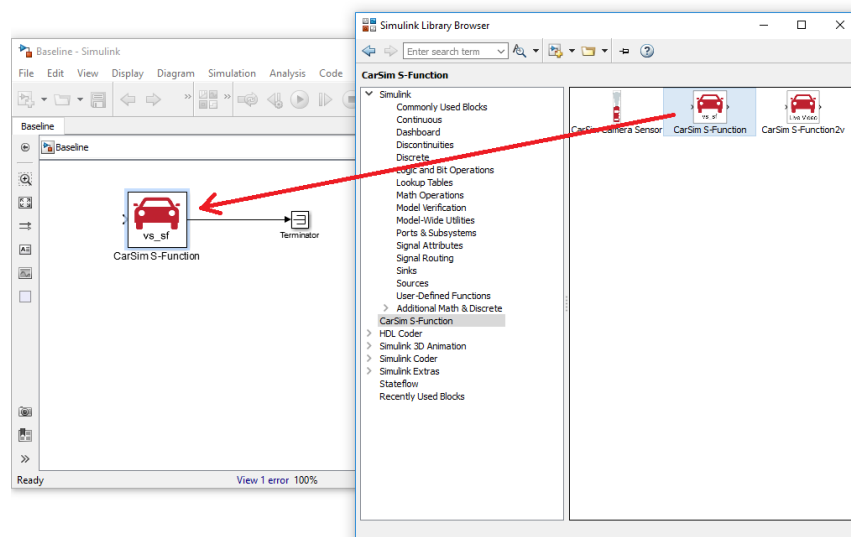

Figure 19. Replace CarSim S-Function.
1. Open an existing Simulink model and open Simulink Library Browser. Delete CarSim S-Function in the Simulink model and replace it with the one in the Library Browser (Figure 19).